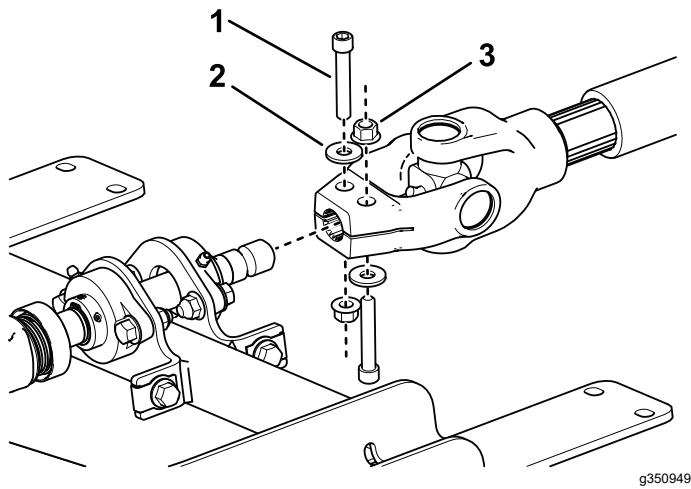

Figure 14
6. Using the PTO connection hardware removed in 3 Preparing the Traction Unit \(page 8\), secure the traction unit PTO shaft to the splined connecting shaft on the mounting plate assembly as shown in Figure 14.